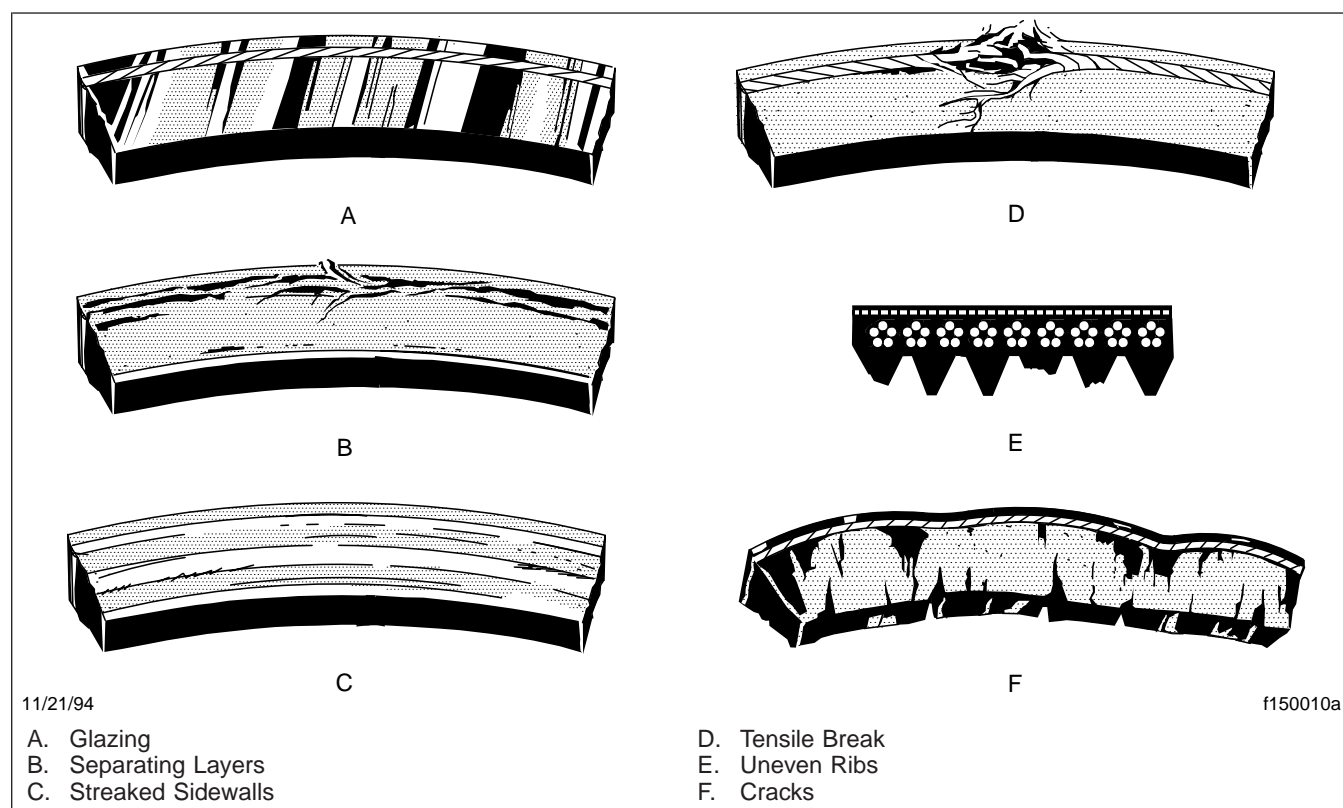

Fig. 4, Drive Belt Replacement Conditions
1. Inspect the belt for glazing. See Fig. 4, Ref. A. Glazing is represented by shiny sidewalls, and is caused by friction created when a loose belt slips
2. Check the belt for ply separation. See **Fig. 4**, Ref. B. Oil, grease, or belt dressing can cause the belt to fall apart in layers. Repair any oil or coolant leaks that are affecting the belts before replacing the drive belts. Do not use belt dressing on any belt.
3. Check the belt for a jagged or streaked sidewall. See **Fig. 4**, Ref. C. Jagged or streaked sidewalls are the result of foreign objects, such as sand or gravel in the pulley, or a rough pulley surface.
4. Check for tensile breaks; breaks in the cord body. See **Fig. 4**, Ref. D. Cuts in a belt are usually caused by foreign objects in the pulley, or by prying or forcing the belt during removal or installation.
5. Check for uneven ribs on serpentine (poly-V) belts. See **Fig. 4**, Ref. E. Foreign objects in the pulley will erode the undercord ribs, causing the belt to lose its gripping power.
6. Check the drive belts for cracks. See **Fig. 4**, Ref. F. Small irregular cracks are usually the signs of an old belt.